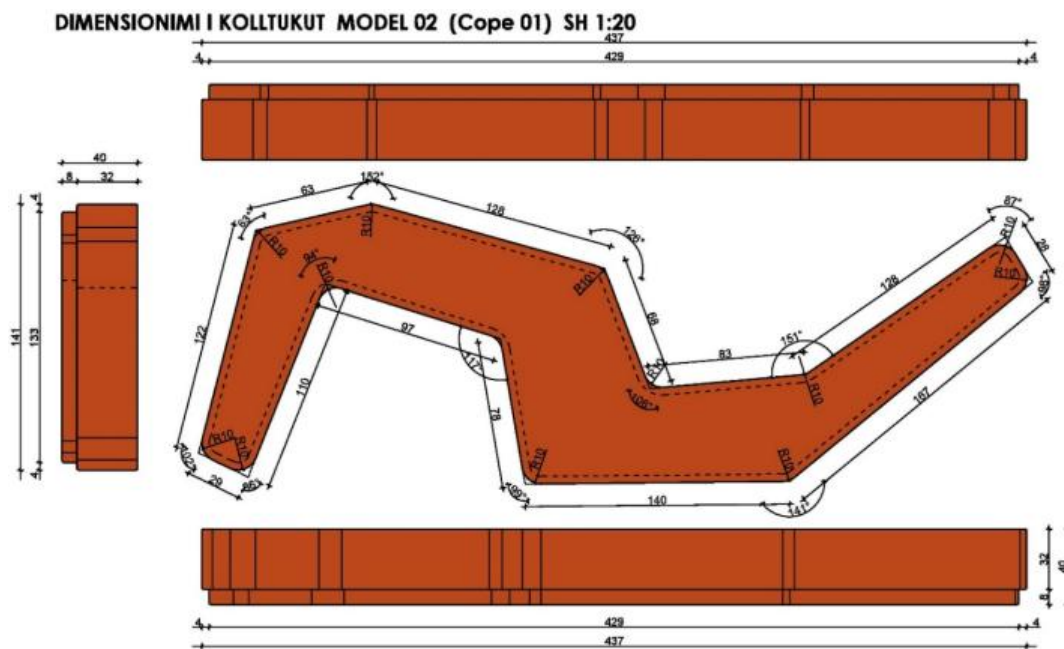

Fig.11
- Modeli referencë Fig.11,12,13,14.